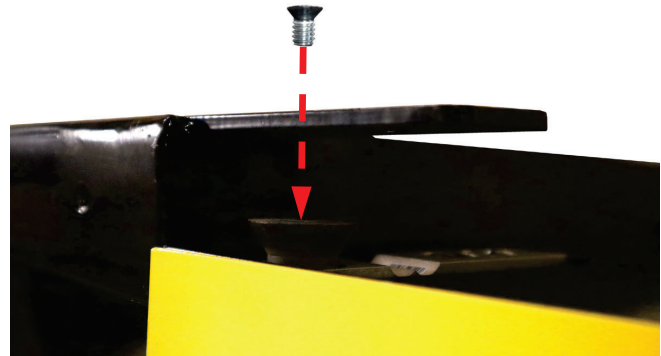

Figure No. 1
Refer to Figures No. 1 and 2, then follow the steps below to install the ramps.
- Begin with the top rubber mount. Apply thread locker to the first screw. While holding the ramp against the top rubber mount, hand-thread the screw into the mount (See Figure No. 1).